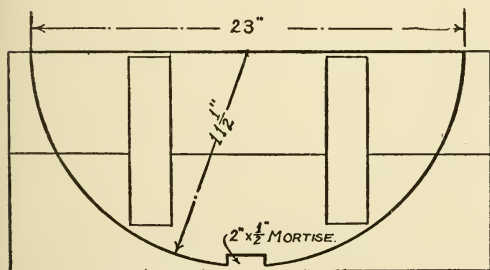

FIG. 204.—The Mould.
**A Mould** similar to Fig. 204. Fasten together two boards about two feet long with battens, as shown in the